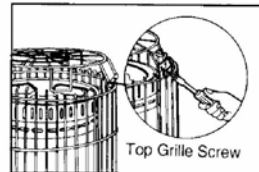

Fig. 8
- Secure each bracket with a screw. Make sure that the brackets on the top guard are positioned inside the mounting brackets on the front and rear guards. (Fig. 8)